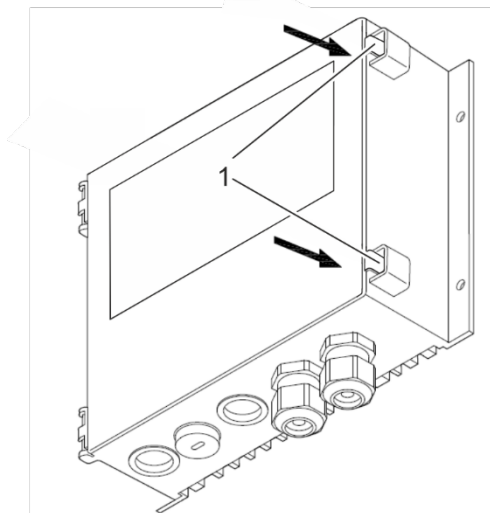

Fig. 107: Close front cover
25. Close the front cover of the rotor cleaner drive. Make sure that the locking clips (Fig. 107/1) engage audibly.